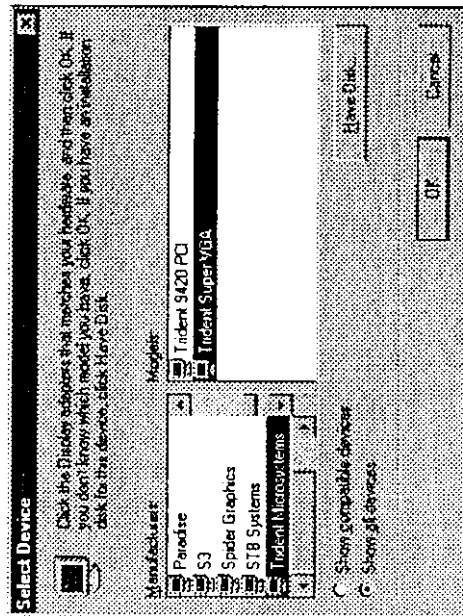

Figure 3-4.
5. On the "Select Device" page, SELECT the "From Disk" button to install the Trident display driver from Disk 2 of the Drivers and Utilities diskette (refer to Figure 3-4).